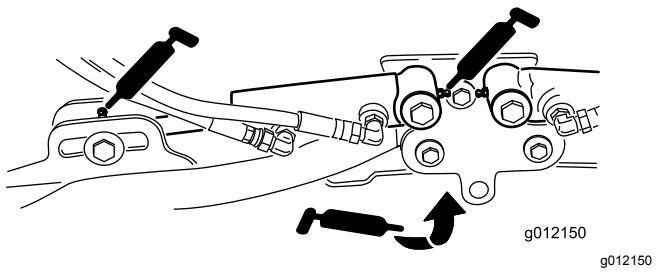

Figure 37
- Cutting-unit lift-arm cylinders (2 each) (Figure 37)
- Lift-arm pivots (1 each) (Figure 37)